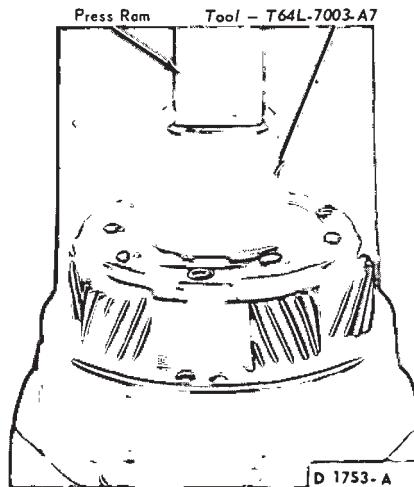

FIG. 29—Installing Output Shaft Bushing
2. Insert a new bushing into the installation tool and position the tool and bushing over the output shaft hub. Then, press the bushing on the output shaft hub as shown in Fig. 29.